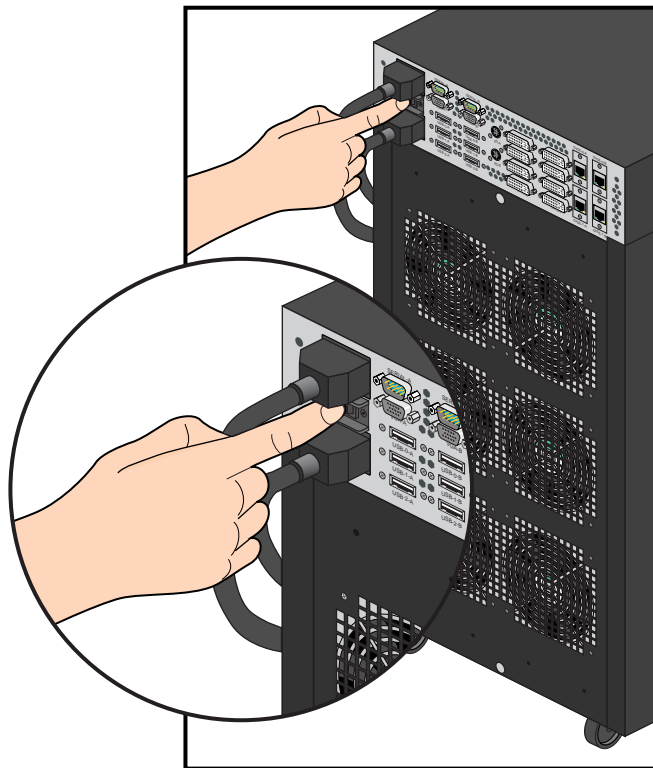

Figure 1-3 Pushing the Enable Power Switch
5. With the enable power switch in the off (0) position, connect each of the power cables from the power supply connectors on the rear of the system to approved wall plug outlets near the work area. Note that the enable power switch is located between the two power plugs.
6. Push the enable power switch to the on (1) position to start the system, see Figure 1-3 on page 6.